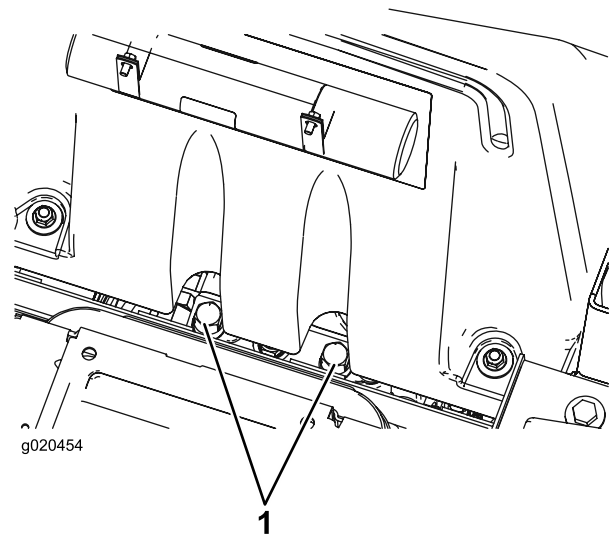

Figure 30
**Note:** The bypass valves are located below the front of the fuel tank (Figure 30).